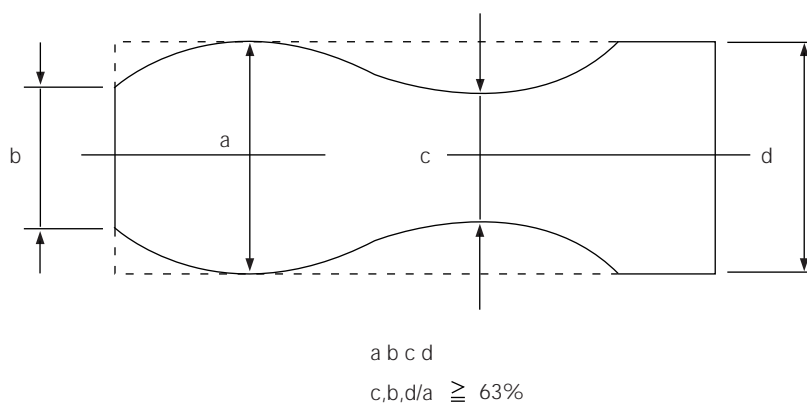

Fig. 2-6 Envelope Waveform Adjustment
3. Make sure the video envelope waveform (at its minimum) meets the specification shown in Fig. 2-6.